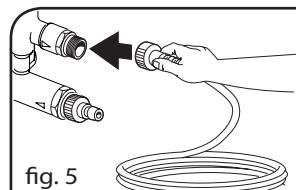

fig. 5
- Connect the high pressure hose to the unit's high pressure outlet (fig.5).